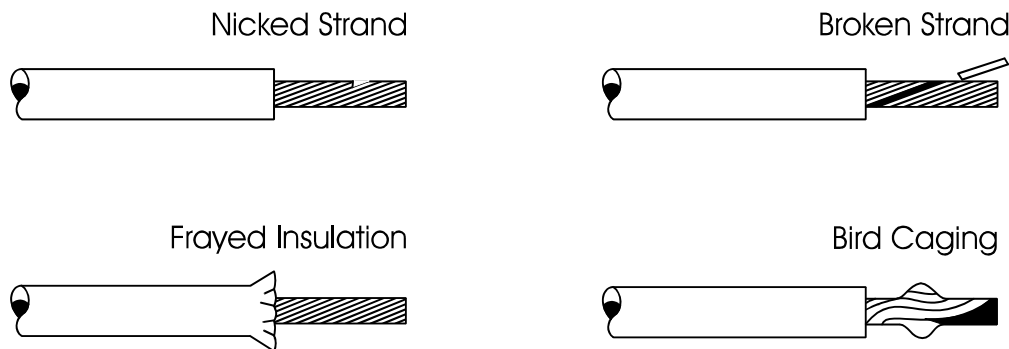

Figure 3-3 Examples to look for when Stripping Multi-Stranded Wire
12. The procedure for stripping Kapton wire or cable with a hand stripper is as follows (see Figure 3-3):
13. When visually inspecting multi-stranded wire, determine if any of the conditions illustrated in Figure 3-3 exist.
15. When the conditions in Figure 3-3 exist, but are out of tolerance, cut off the stripped portion and start the procedure again. If the wire length does not permit, restart with a new length of wire.